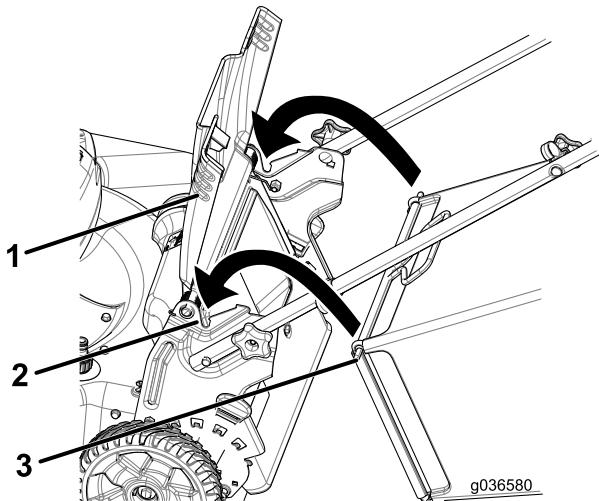

Figure 22
1. Raise and hold up the rear door (Figure 22).
2. Install the grass bag, ensuring that the pins on the bag rest in the notches on the handle (Figure 22).